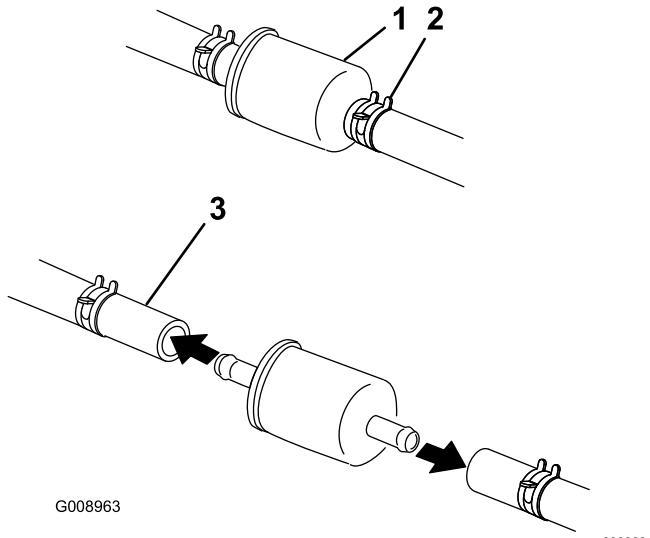

Figure 37
5. Squeeze the ends of the hose clamps together and slide them away from the filter (Figure 37).
| 7. Install a new filter and move the hose clamps close to the filter ( <a href="#">Figure 37</a> ). |              |